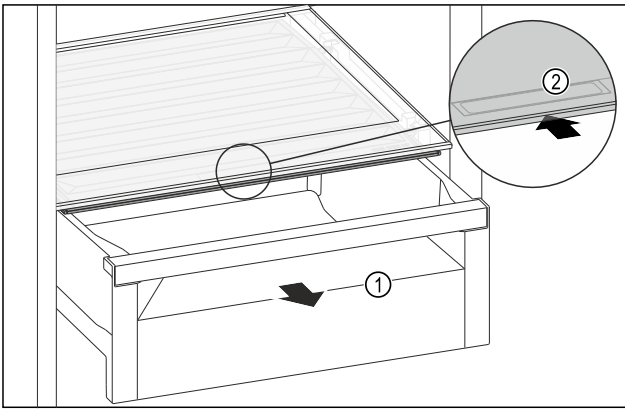

Fig. 136
- ▶ Pull out the drawer Fig. 136 (1).
- ▶ Grasp the recessed grip Fig. 136 (2) on the compartment lid and push the compartment lid backwards at the same time.